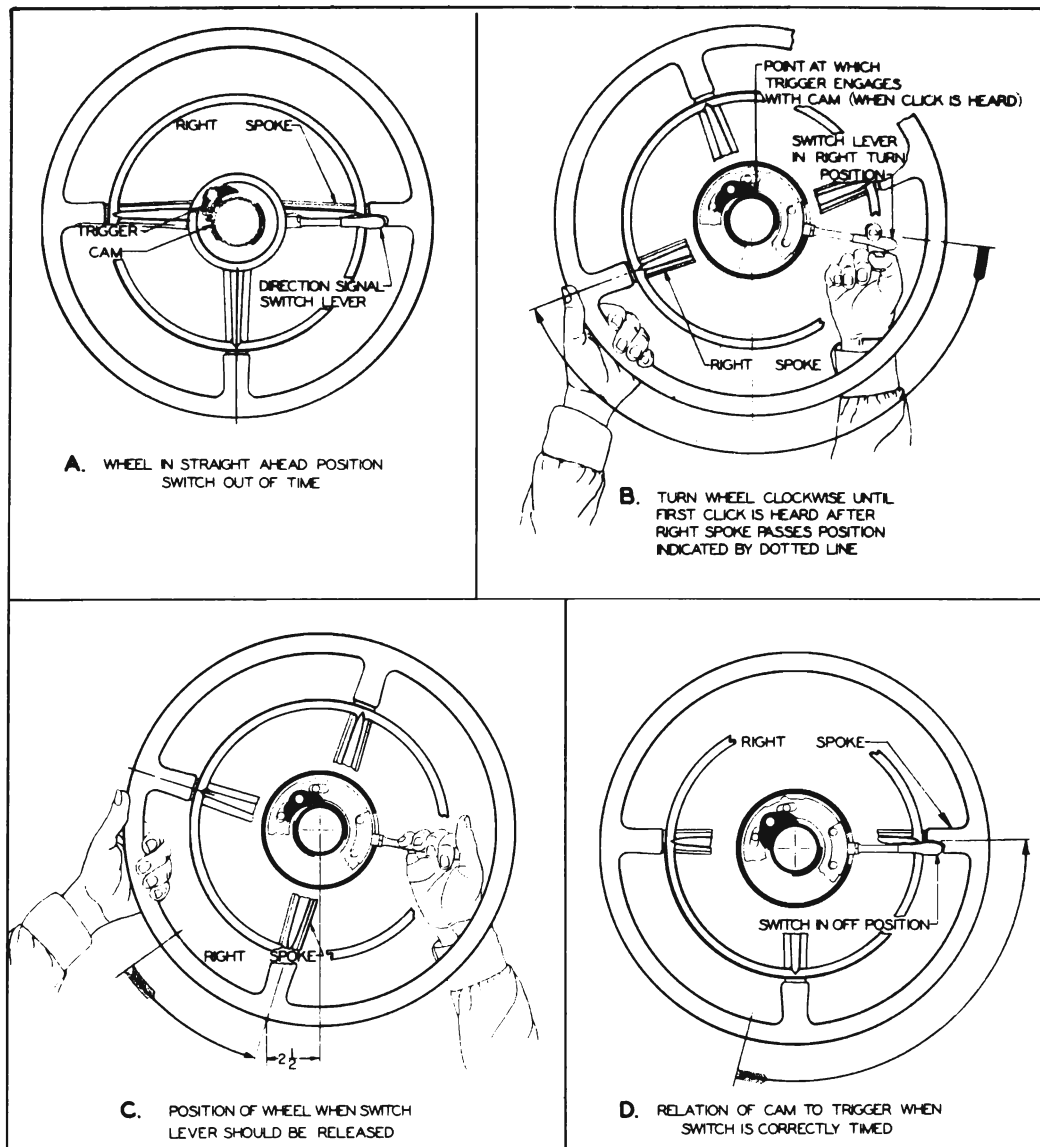

Figure 10-102—Timing of Direction Signal Switch Cam
The actual returning of switch to the "off" position takes place as the steering wheel returns to the straight-ahead position. If the switch does not operate as described, the switch cam is not in proper relation to the trigger. See figure 10-102, view A.
2. Move switch control lever down to indicate a right turn, then rotate steering wheel clockwise until click is heard as the switch trigger drops into a notch in the cam, or a slight movement of control lever is felt. The steering wheel should have been turned at least one-third revolution at this point. See figure 10-102, view B.
3. Hold control lever down firmly and slowly turn steering wheel counterclockwise until the right horizontal spoke is approximately $2\frac{1}{2}$ " to the left of the straight-down position. This will cause the cam to slip in its friction mounting on the steering wheel hub. See figure 10-102, view C.
4. Release hold on control lever and turn steering wheel to straight-ahead position. The switch will automatically return to "off" position as the wheel is turned. No further adjustment is required for a left turn. See figure 10-102, view D.